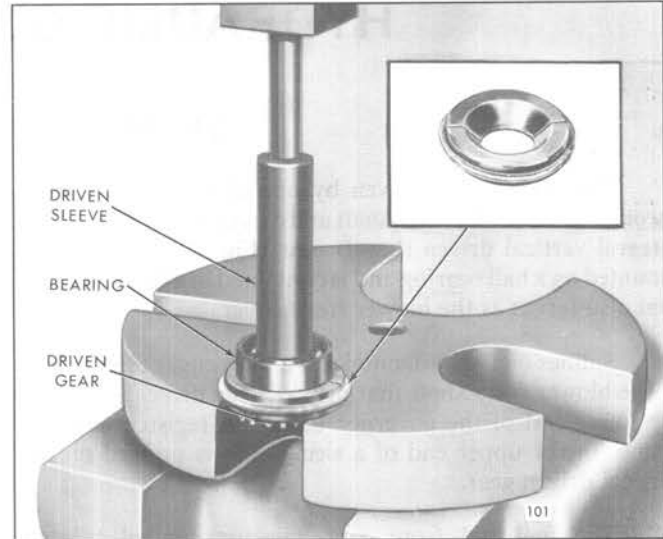

Fig. 3 - Removing Driven Sleeve and Bearing from Driven Gear
- b. Support the driven gear assembly and remove on the bed of an arbor press (Fig. 3). Place a brass rod inside the sleeve against the end of the driven gear, then press the driven gear from the sleeve and bearing. Catch the driven gear by hand when pressed from the bearing.